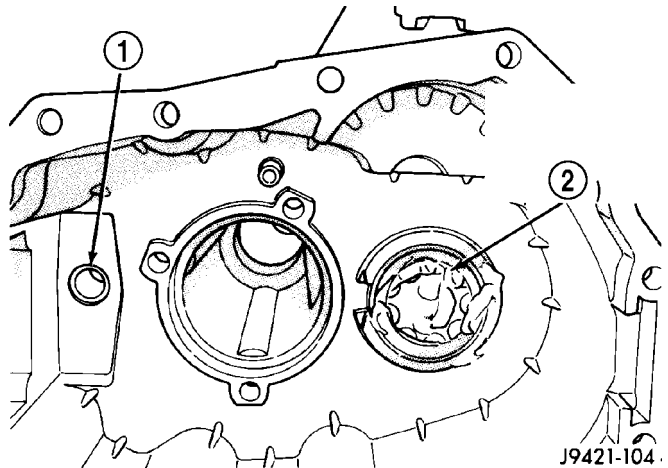
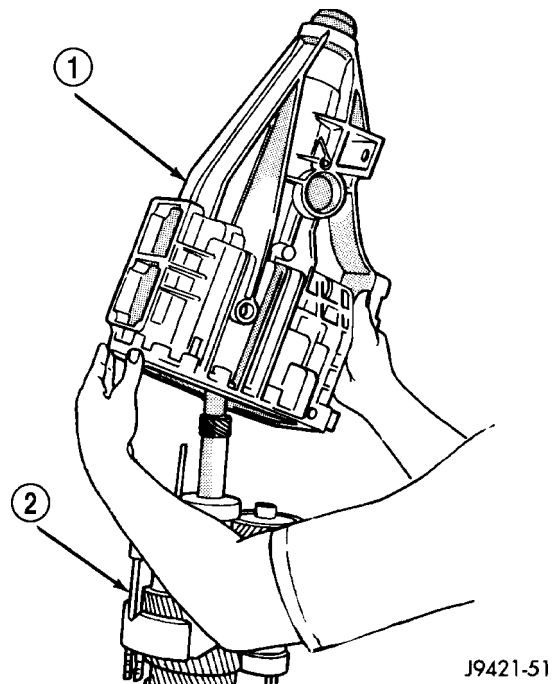
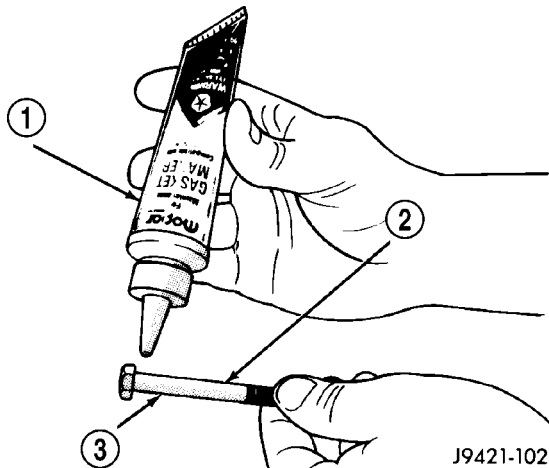

Fig. 97 COUNTERSHAFT REAR BEARING SEATED
Fig. 98 REAR HOUSING - 2WD
Fig. 99 SEAL RETAINING BOLTS
CAUTION: Large diameter side of the roller retainer must face the countershaft and small diameter side must face the race and housing (Fig. 97).
(4) Apply extra petroleum jelly to hold countershaft rear bearing in place when housing is installed.
(5) Apply light coat of petroleum jelly to shift shaft bushing/bearing in rear housing (Fig. 97).
(6) Reach into countershaft rear bearing with finger and push each bearing roller outward against race. Then apply extra petroleum jelly to hold rollers in place. This avoids having rollers becoming displaced during housing installation.
(7) Install rear housing onto geartrain (Fig. 98). Verify bearing retainer pilot stud is in correct bolt hole in the housing and countershaft and output shaft bearings are aligned in housing and on countershaft. If necessary lift upward on countershaft slightly to ensure that the countershaft rear bearing engages to the countershaft before the rear output shaft bearing engages the housing.
(8) Seat rear housing on output shaft rear bearing and countershaft by tapping the housing into place with a rawhide mallet.
(9) Apply Mopar Gasket Maker or equivalent to housing bolt threads, bolt shanks and under bolt heads (Fig. 99).
(3) Apply Mopar Gasket Maker or equivalent to threads, bolt shanks and under hex heads of bearing retainer bolts (Fig. 99).
(4) Apply liberal quantity of petroleum jelly to countershaft rear bearing and bearing race.
(5) Install countershaft rear bearing in bearing race (Fig. 97).
CAUTION: The large diameter side of the roller retainer must face the countershaft and the small diameter side must face the race and housing (Fig. 97).
(6) Apply extra petroleum jelly to hold countershaft rear bearing in place when housing is installed.
(7) Apply light coat of petroleum jelly to shift shaft bushing/bearing in adapter housing (Fig. 97).
(8) Install adapter housing on geartrain.